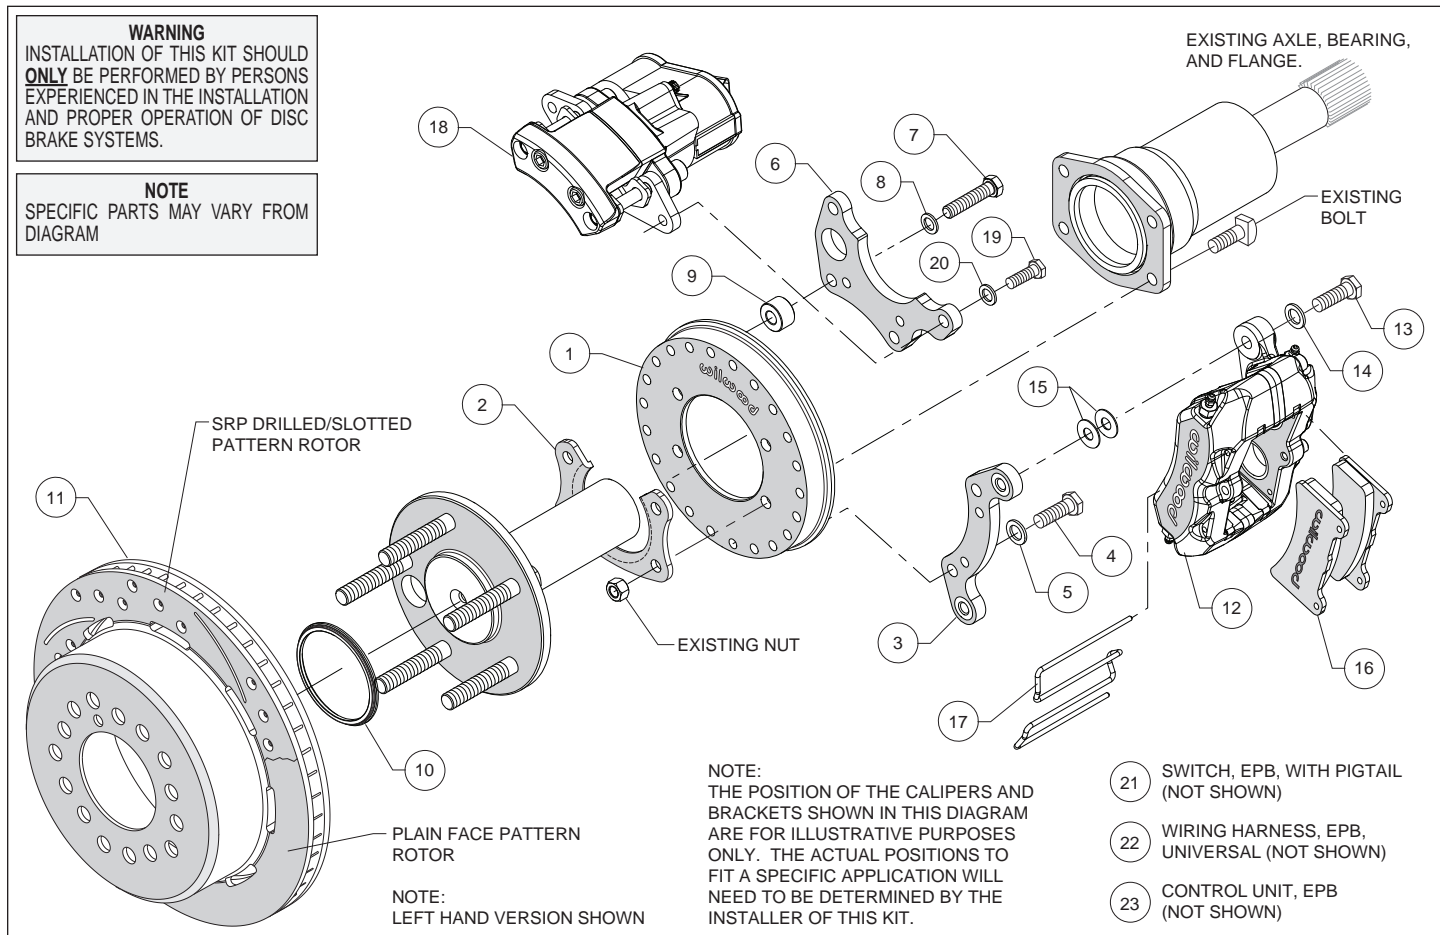
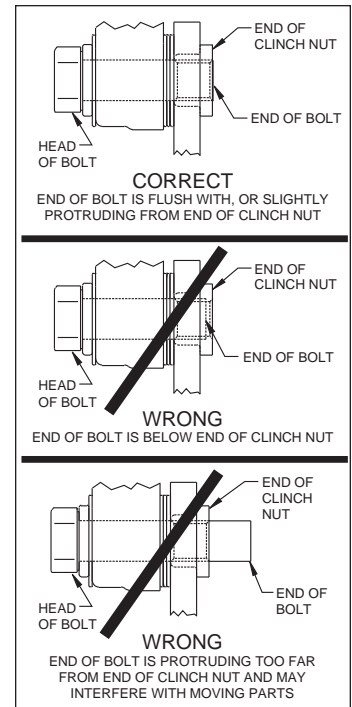

Figure 1. Typical Installation Configuration
Figure 5. Clinch Nut Engagement Diagram
(numbers in parenthesis refer to the parts list, and Figure 1 on the preceding pages):
**CAUTION:** All mounting bolts must fully engage clinch nuts. Be sure to check that all bolts are either flush or protruding through flanged side of clinch nut after shimming, Figure 5.
- Orient the backing plate (1) as shown in Figure 1 and Photo 1, and slide it onto the axle housing flange. Ensure the backing plate fits flush against the axle housing flange. Reinstall the axle into the axle housing.
- Install the bearing retainer (2) with the opening pointing upward and the lip facing inward (toward the bearing), as shown in Figures 1 and 4, and Photo 2. Secure retainer and backing plate to the axle housing flange using the Original Equipment Manufacturer (OEM) bolts and nuts, Figure 1 and Photo 3. Apply red *Loctite*® 271 to the OEM bolt threads and torque to OEM specifications.
- Start by determining the best location for the service caliper (12). This caliper is usually mounted in the 3:00 or 9:00 o'clock position, but may be rotated up or down approximately 45 degrees and still allow for proper bleeding, Photo 4. Orient the service caliper bracket (3) as shown in Figure 1 and Photo 5, and install to the backing plate (1) in the desired location using bolts (4) and washers (5). Temporarily tighten bolts. Next, mount the service caliper to the bracket using bolts (13) and washers (14). Temporarily tighten bolts. Check that the caliper (including inlet fitting and hose) has sufficient clearance to all surrounding components through the full suspension travel. Relocate the caliper/bracket on the backing plate as needed to ensure proper clearance is achieved.
- Determine the best location for the EPB caliper (18). **NOTE:** *The EPB caliper motor extends farther inboard than the service caliper and therefore needs additional consideration when determining a mounting location with sufficient clearance.* In the example application shown in Photo 6, the EPB caliper has sufficient inboard clearance to the leaf spring. However, if the EPB caliper were mounted closer to the 12:00 o'clock position, the inner body of the vehicle would hit the caliper during full compression of the suspension.
•Orient the EPB caliper bracket (6) as shown in Figure 1 and Photo 7, and install to the backing plate (1) in the desired location using bolts (7), washers (8), and spacers (9). Temporarily tighten bolts. **NOTE:** The EPB bracket is reversible. In one direction the bracket will position the EPB caliper closer to the service caliper, and vice versa if reversing the bracket. Next, mount the EPB caliper (18) to the bracket using bolts (19) and washers (20). Temporarily tighten bolts. **NOTE:** EPB calipers are Left and Right handed, however they can be used on either side of the vehicle to best suit your specific application. Check that the EPB caliper (including wiring harness connector) has sufficient clearance to all surrounding components through the full suspension travel. Relocate the EPB caliper/bracket on the backing plate as needed to ensure proper clearance is achieved.
•Once the caliper positions have been determined, remove both the service (12) and EPB (18) calipers, leaving both brackets in place on the backing plate. For both brackets, remove the bolts one at a time, apply red *Loctite*® 271 to the threads, and torque to 35 ft-lb.
•Slide the rotor registration adapter (10) onto the register on the axle flange with the smaller O.D. facing toward the rotor/hat (11), Photo 8. Align the correct hole pattern in the rotor/hat with the stud pattern on the axle flange and slide into place, Figure 1. **NOTE:** The rotor/hat must fit flush against the axle flange or excessive rotor run out may result. Install three lug nuts (finger tight) to keep the rotor/hat assembly in place while continuing with the installation. **NOTE:** Some OEM and after market axles come with stud sizes larger than 0.50" diameter. Verify stud size and have a qualified machine shop drill the bolt circle of the hat/rotor to the correct stud size, if necessary.
•**NOTE:** Please reference the caution statement at the beginning of the assembly instructions. Remount the service caliper (12) onto the caliper mounting bracket (3) using bolts (13) and washers (14), as shown in Figure 1. Initially place two .035" thick shims (15) on each bolt between the caliper and the bracket, Photo 9. Temporarily tighten the mounting bolts and view the rotor (11) through the top opening of the caliper. The rotor should be centered in the caliper, Photo 10. If not, adjust by adding or subtracting shims (15) between the bracket (3) and the caliper (12). Always use the same amount of shims on each of the two mounting bolts. **NOTE:** The end of each bolt must be flush with or slightly protruding from the head of the clinch nut, as shown in Figure 5. If necessary place spare shims (15) between washer (14) and caliper mounting ear to achieve the proper clinch nut engagement. Once the caliper alignment and clinch nut engagement are correct, remove the bolts one at a time, apply red *Loctite*® 271 to bolt threads, and torque to 40 ft-lb.
- Mount the EPB caliper (18) onto the caliper mounting bracket (6) using bolts (19) and washers (20), Figure 1. Apply red *Loctite*® 271 to bolt threads, and torque to 30 ft-lb.
- NOTE:** *The service caliper (12) in this brake kit utilizes a 1/8-27 NPT pipe thread inlet. OEM rubber brake hoses generally cannot be adapted to Wilwood calipers. The preferred method is to use steel adapter fittings at the caliper, either straight, 45 or 90 degree and enough steel braided line to allow for full suspension travel. **Carefully route hoses to prevent contact with moving suspension, brake or wheel components.** NOTE: Wilwood hose kits are designed for use in many different vehicle applications and it is the installer's responsibility to properly route and ensure adequate clearance and retention for brake hose components. Wilwood offers universal brake flex line hose kits, domestic (3/8-24 IF) chassis fittings, order:*